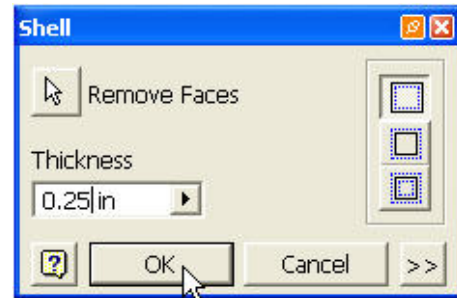

Figure 49
- Set the thickness of the walls to .25in as shown in Figure 49.